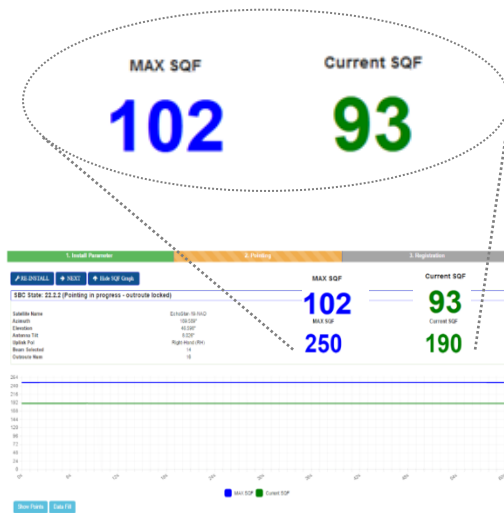

Figure 18
Step 29: Visualize the SQF (Signal Quality Factor) on the Terminal page (fig. 18). The green number on the right is the current value, the blue number on the left is the max value achieved during your past measurements